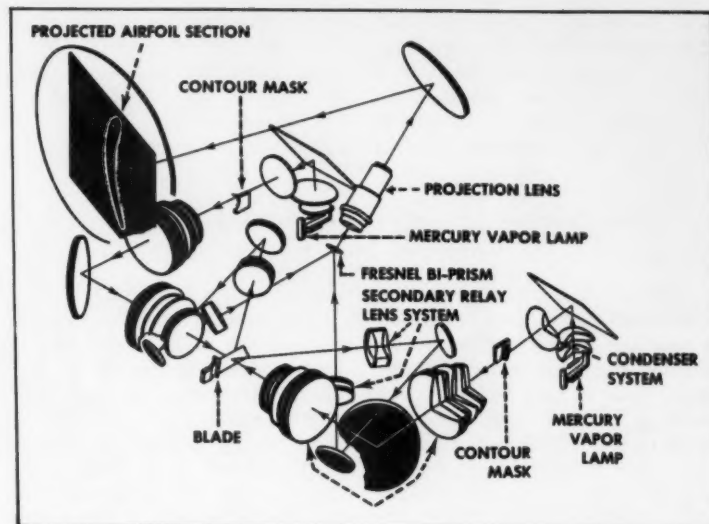

Fig. 3. Primary relay lens system of Kodak section-profile projector
Although the projector will be used primarily for inspecting the blades of jet engines, it is expected to have other uses. The optical system, Fig. 3, of the air-foil sectional projector has three major advantages for this type of inspection work: (1) It provides illumination for a well defined image; (2) permits long turbine blades to be inspected; and (3) the instrument can project entire sections of shrouded blades or blades which have a high twist. It will be noted that identical optical systems are used on both sides of the blade, the entire profile of a section being projected by matching the half-profiles from each system.
Two high-pressure, mercury-vapor lamps provide intense illumination on both sides of the blade. A special contour mask and relay lens system combine to eliminate distortion in the illuminating optical system, shown in Fig. 3. The bright line of light focused on the blade, as illustrated in Fig. 2, is viewed by each of the two lens systems at a 35-degree angle to the blade. Viewing at these angles prevents interference of the light beam by blade shrouding or twist and permits the inspection of long blades. A mirror system and a Fresnel bi-prism re-